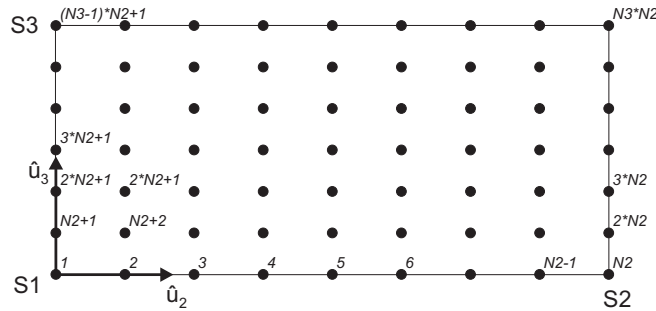
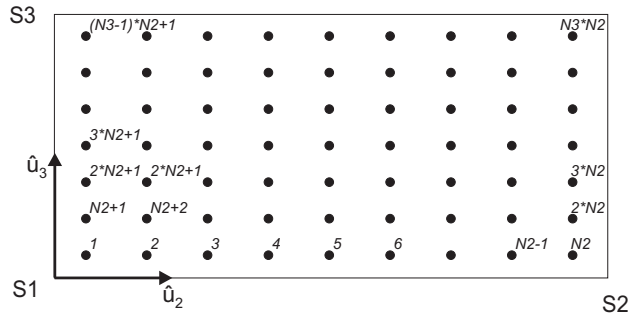

Figure 10-9: Location of the equivalent dipoles on a planar aperture where the *Also sample along edges* item is checked.
Figure 10-10: Location of the equivalent dipoles on a planar aperture where the *Also sample along edges* item is unchecked.
- Also sample along edges:* This item is used to determine if dipoles should lie on the edges of the aperture or not (see figures 10-9 to 10-12). When checked the outer dipoles lie on the edges, when unchecked the dipoles lie half an increment away from the edges. Dipoles should not lie on
Figures 10-9 and 10-10 show the application of the equivalence principle to a planar aperture. In both figures there are the same number of field points along the two orthogonal directions. When the *Also sample along edges* item is checked, the first point lies at S1 with the following points in the direction of S2 as shown by the indices in figure 10-9. When it is unselected, the pattern is as shown in figure 10-10. The normal vector is calculated from  $\hat{n} = \hat{u}_2 \times \hat{u}_3$  with  $\hat{u}_2$  and  $\hat{u}_3$  as defined in the figure.